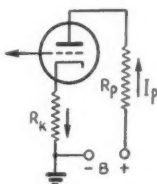

Fig. 2
Since true plate voltage is the voltage between plate and cathode, the voltage drop across the cathode resistor,  $R_k$  in Fig. 2, as well as the drop across the plate resistor,  $R_p$ , must be subtracted from the supply voltage in calculating plate voltage.
In Fig. 2 the plate voltage is
*Example:* In Fig. 2,